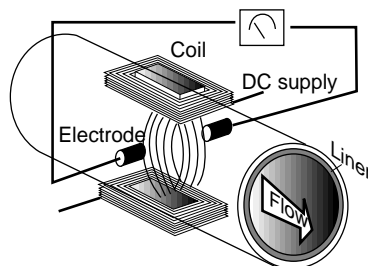

Figure 1-1.
The basic components of an electromagnetic flow meter (see Figure 1-1) consists of a stainless steel tube internally lined with an isolating material. Two (2) electrodes are mounted flush with the liner walls. The entire meter is sealed and therefore cannot be serviced other than the occasional cleaning of the electrodes. This manual focuses on the installation of the meter, the wiring, and programming procedures.